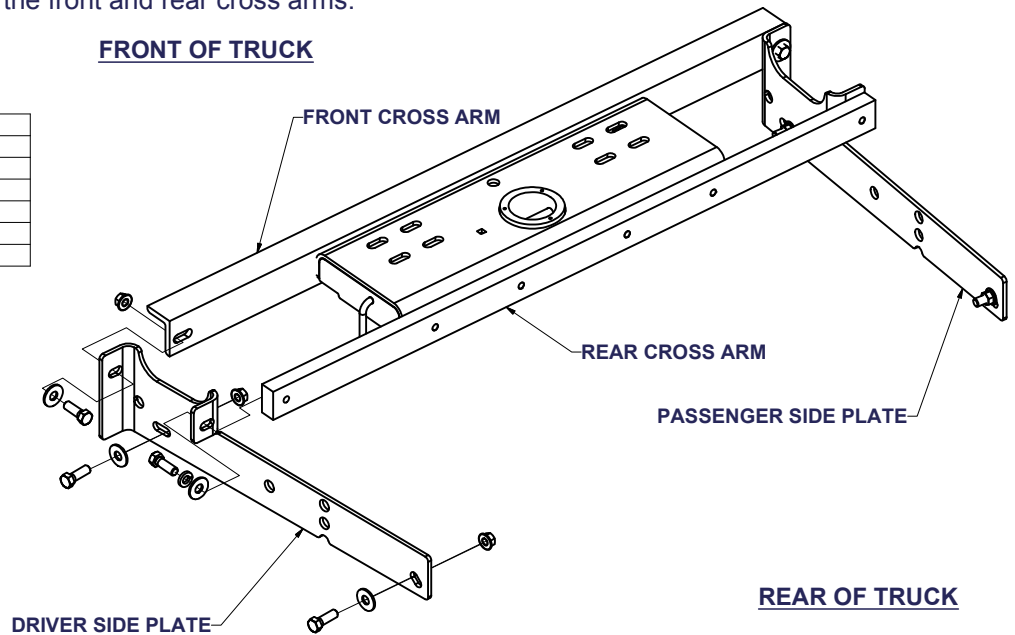

FIGURE 2
- 5) Raise the center section in position between the cross arms **with the ball cylinder towards the back of truck**. The round hitch receiver that protrudes from the top of the center section must fit through the hole in the truck bed. Using (4) 1/2" bolts, washers, and lock washers, attach the center section to the threaded holes in the rear cross arm. Next, attach the front cross arm (angle iron) to the center section using (4) 1/2" carriage bolts and flange nuts. **(Finger tight only.)**
- 6) Square the center section and cross arms across the frame. Thread a 1 1/2" bolt with a flat and lock washer through the back flange of the sideplate into the rear cross arm. Place a 1 1/2" bolt with a flat washer through the front flange of the sideplate into the front cross arm. (As shown in **Figure 2**) **Finger tight** with a 1/2" flange nut. **(REPEAT FOR OTHER SIDE)**
- 7) Align one front hole and one rear hole on each sideplate to the existing holes in the truck frame. Using a 1 1/2" bolt with a 1/2" flat washer attach the sideplates to the truck frame. (As shown in **Figure 2**) **Finger tight** with a 1/2" flange nut.